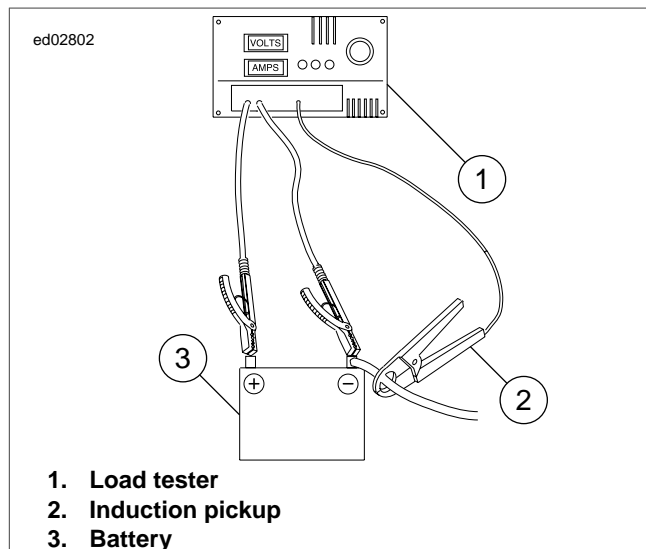

Figure 3-11. Check Current Draw (Ignition Switch On)
- See Figure 3-11. Connect load tester.